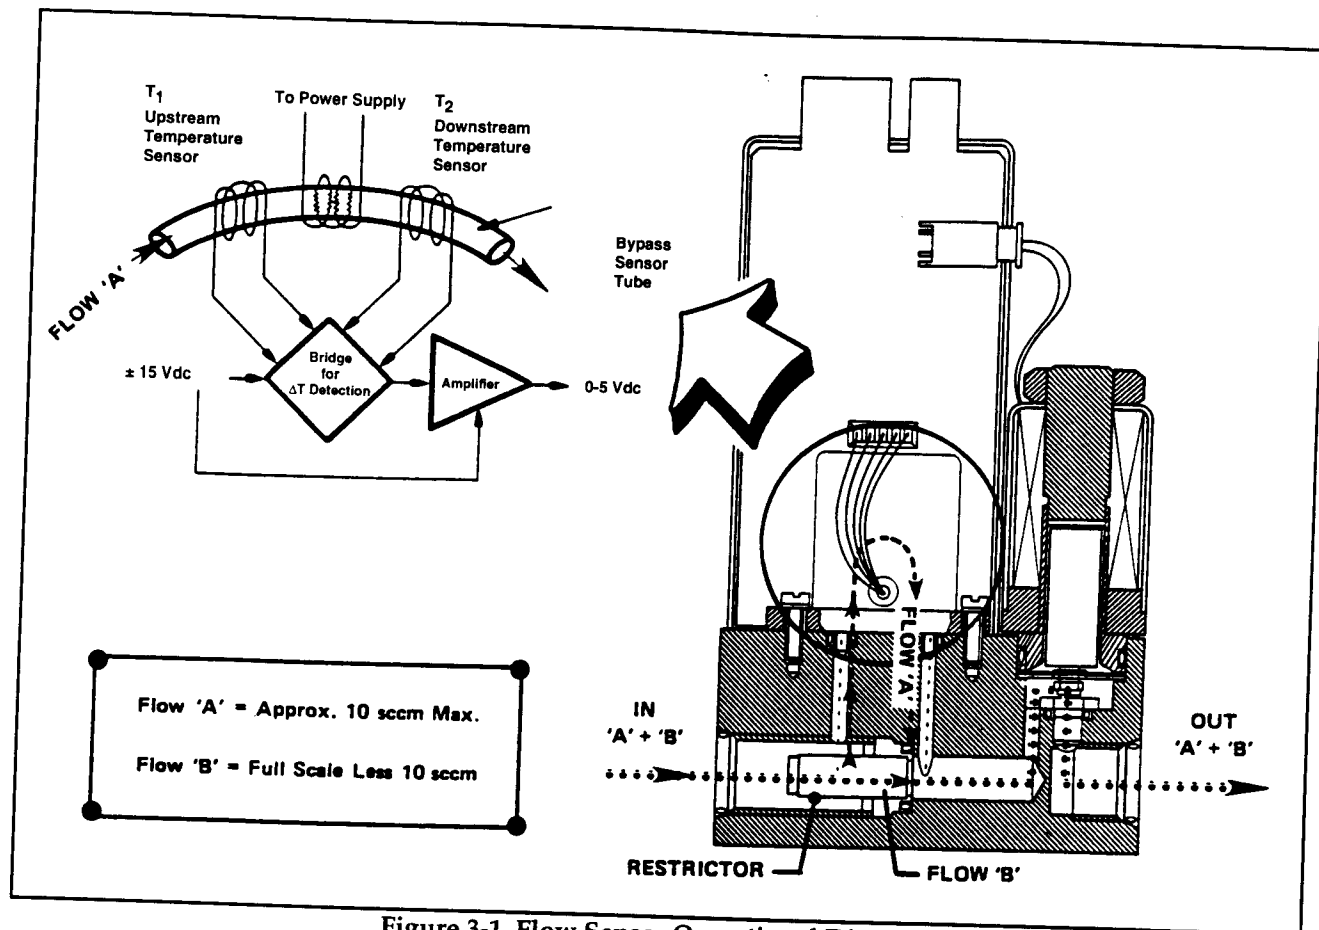

Figure 3-1. Flow Sensor Operational Diagram
A precision power supply provides a constant power heat input (P) at the heater, which is located at the midpoint of the sensor tube. Refer to Figure 3-1. At zero, or no flow conditions the heat reaching each temperature sensor is equal. Therefore the temperatures T1 and T2 are equal. When gas flows through the tube the upstream sensor is cooled and the downstream sensor is heated, producing a temperature difference. The temperature difference T2-T1, is directly proportional to the gas mass flow.
The flow restrictor shown in Figure 3-1 performs a ranging function similar to a shunt resistor in an electrical ammeter. The restrictor provides a pressure drop that is linear with flow rate. The sensor tube has the same linear pressure drop/flow relationship. The ratio of the restrictor flow to the sensor tube flow remains constant over the range of the meter. Different restrictors have different pressure drops and produce controllers with different full scale flow rates. The span adjustment in the electronics affects the fine adjustment of the controllers full scale flow.